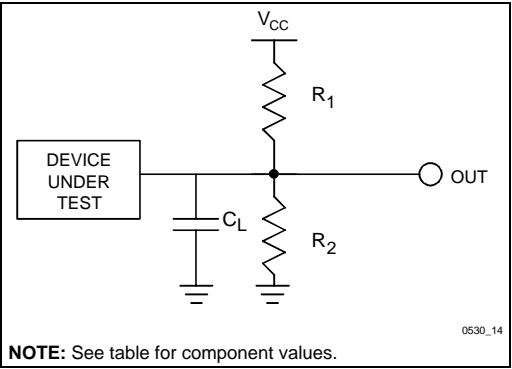

Figure 14. Test Configuration
5. See Test Configurations (Figure 14), 3.3V Standard Test component values.
6. See Test Configurations (Figure 14), 5V High-Speed Test component values.
7. See Test Configurations (Figure 14), 5V Standard Test component values.